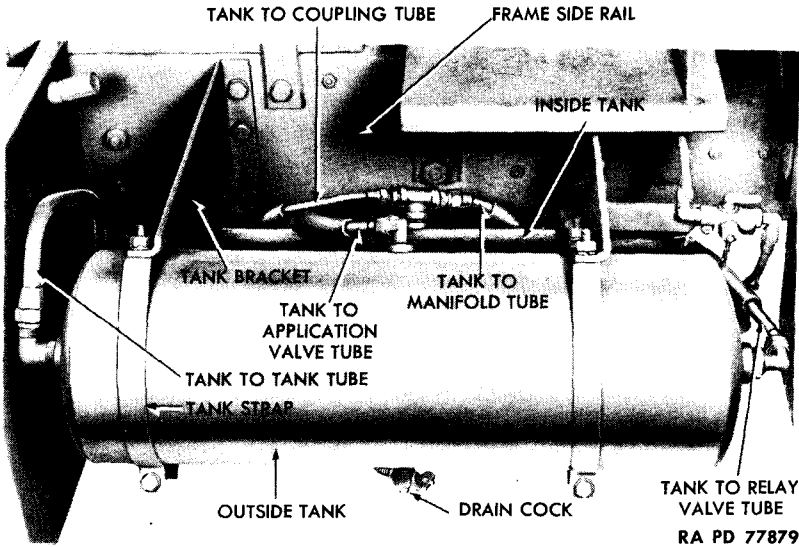

Figure 64 — Air Reservoir Tanks Installed
(1) **DESCRIPTION** (fig. 64). The two reservoir tanks are attached to brackets on the outside of main frame right-hand side rail between cab and tool box. Each tank is equipped with a drain cock, and a tank-to-tank tube connects the tanks together at the rear. Their function is to store compressed air to operate service brakes and air accessories.
b. Removal (fig. 64). Open drain cock on lower center of tank, and allow all air to escape. Disconnect all tubing from fittings on tank. Remove the two nuts, lock washers, and clamp bolts which clamp tank straps together under tank. Spread straps, and lower tank from brackets.
c. Installation (fig. 64). Place tank in position under its brackets. Install the two clamp bolts, lock washers, and nuts which clamp tank straps together under tank, and connect tubing to fittings on tank.